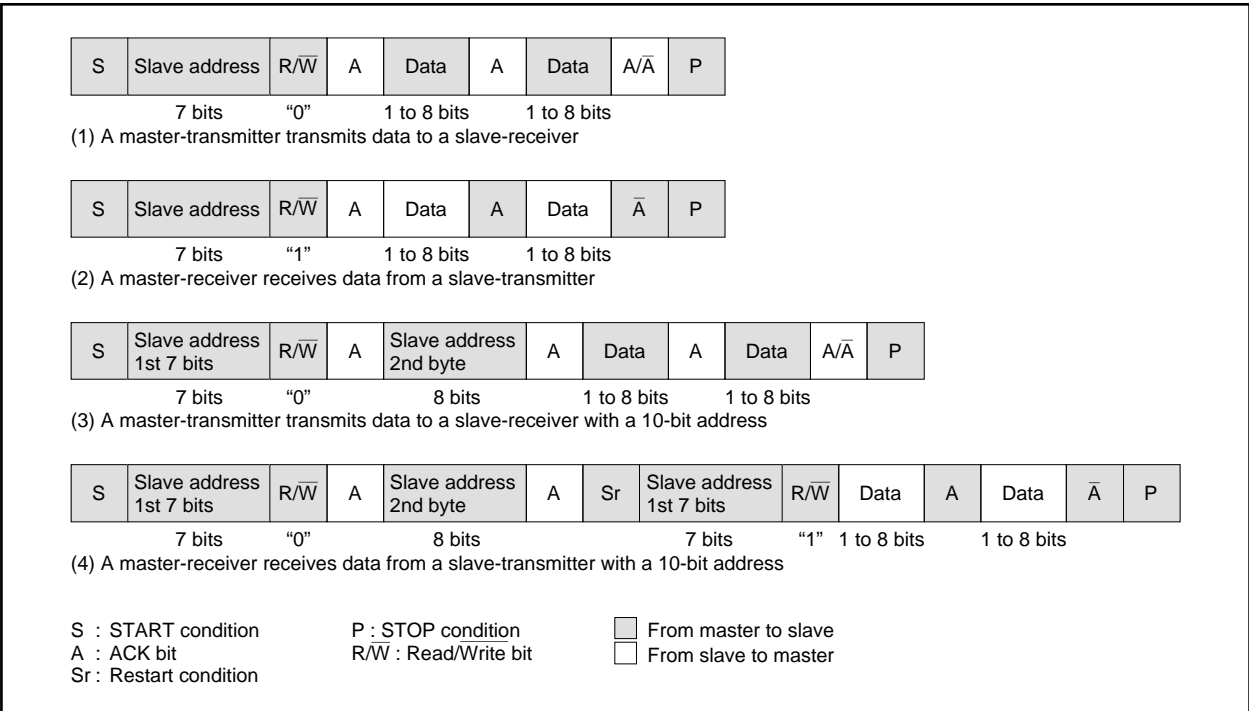

Fig. 52. Address Data Communication Format
① 7-bit addressing format
To meet the 7-bit addressing format, set the 10BIT SAD bit of the I²C control register (address 00F916) to "0." The first 7-bit address data transmitted from the master is compared with the high-order 7-bit slave address stored in the I²C address register (address 00F716). At the time of this comparison, address comparison of the RBW bit of the I²C address register (address 00F716) is not made. For the data transmission format when the 7-bit addressing format is selected, refer to Figure 52, (1) and (2).
② 10-bit addressing format
When the first-byte address data matches the slave address, the AAS bit of the I²C status register (address 00F816) is set to "1." After the second-byte address data is stored into the I²C data shift register (address 00F616), make an address comparison between the second-byte data and the slave address by software. When the address data of the 2nd bytes matches the slave address, set the RBW bit of the I²C address register (address 00F716) to "1" by software. This processing can match the 7-bit slave address and R/W data, which are received after a RESTART condition is detected, with the value of the I²C address register (address 00F716). For the data transmission format when the 10-bit addressing format is selected, refer to Figure 52, (3) and (4).
(11) Example of Master Transmission